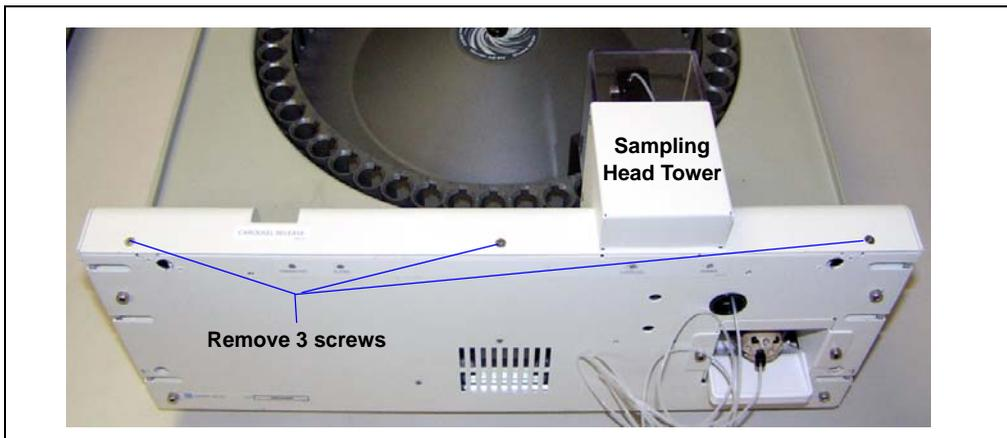

Figure 5-1. Removing the Sampling Head Tower Cover
4. Use a #1 Phillips screwdriver to remove the three flathead screws from the sampling head tower cover (see Figure 5-1). Lift up the cover to remove it.
3. Use a #1 Phillips screwdriver to remove the three flathead screws from the sampling head tower cover (see Figure 5-1). Lift up the cover to remove it.